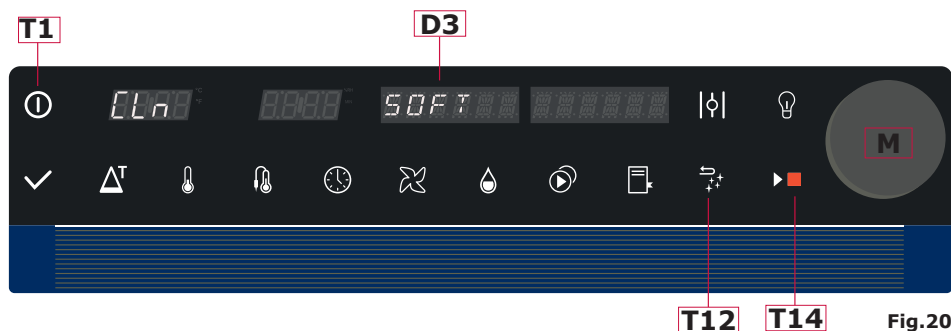

Fig.20
- Turn the oven on using the button **T1 (Fig.20)**.
- Simultaneously press button **T12 (Fig.20)** and the dial **M**.
- The display **D3 (Fig. 20)** will show the type of wash. Turning the dial **M** it is possible to choose between **SOFT** (light), **NORM** (medium) or **HARD** (intense) wash based on the type and amount of dirt inside the cooking chamber.
- Having chosen the type of appropriate wash, press the button **T14 (Fig.20)** to start automatic washing. **Cleaning can only take place with the door closed.**
During washing, the display **D3** (**Fig.20**) will show the following phases: